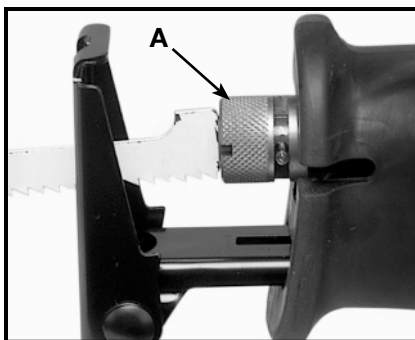

Fig. 4
4. Insert the blade into the clamp until it bottoms. Allow the release collar to rotate clockwise to lock the blade in place, (A) Fig. 4.